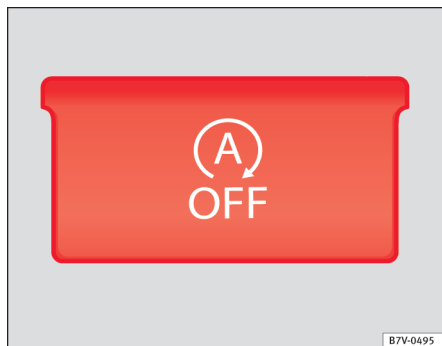

Fig. 139 Detailed view of the centre console: Start-Stop function button.
- Press the  button on the centre console => fig. 139.